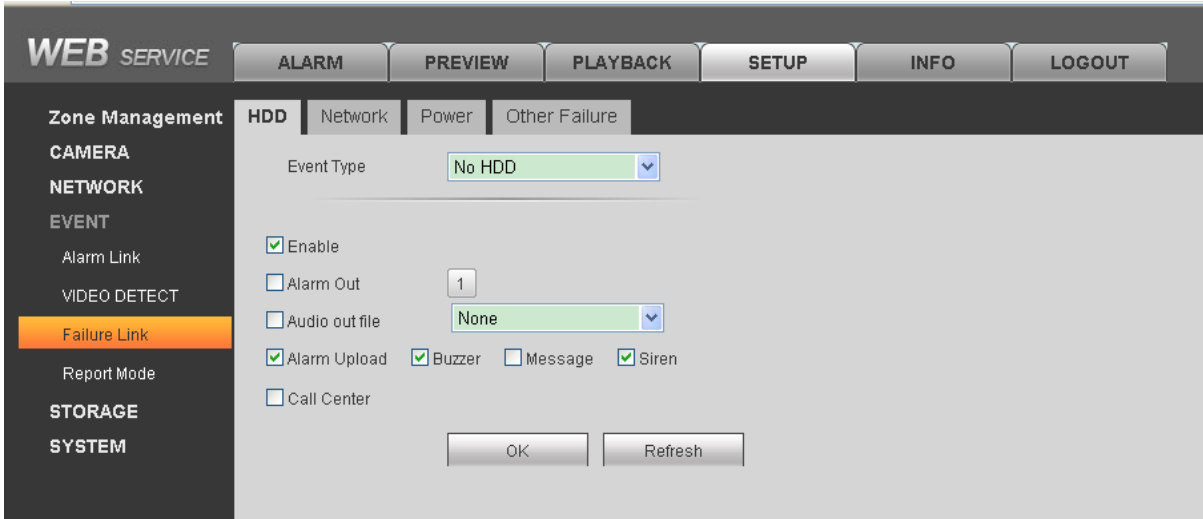

Figure 4- 11
Step 1. Select SETUP>Event>Failure Link. See Figure 4- 11. Click HDD (or Network, Power or Other Failure tab)